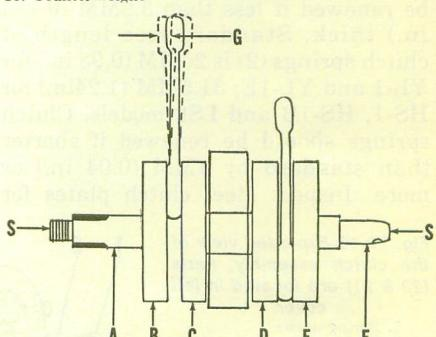

Fig. Y2-15-Refer to text for checking crankshaft for correct assembly or wear.
**CONNECTING RODS AND CRANKSHAFT.** The crankcase halves must be separated to remove the crankshaft. Connecting rods, crankpins, rod bearings and the center main bearings are removed by pressing the crankshaft apart. The crankshaft should be disassembled **ONLY** if required tools are available to correctly check and align the reassembled crankshaft. If side shake (G—Fig. Y2-15) at piston pin end of connecting rod end exceeds 2MM (0.08 in.), the connecting rod, crankpin and lower bearing should be renewed. Shake (G) should be 0.8-1.0MM (0.032-0.039 in.). Side clearance of connecting rod between the crankshaft counter weights can be measured with a feeler gage. Side clearance should be 0.1-0.3MM
(0.0039-0.012 in.). With crankshaft supported between lathe centers (S—Fig. Y2-15), maximum eccentricity when measured with dial indicator at points (A,B,C,D,E, & F) should not exceed 0.02MM (0.0008 in.).